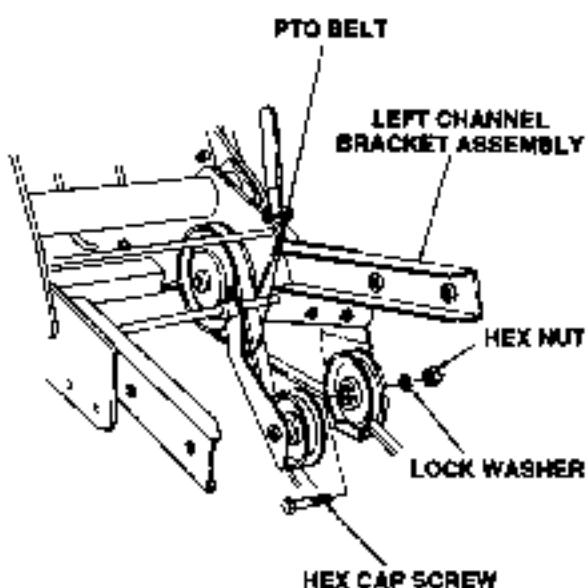
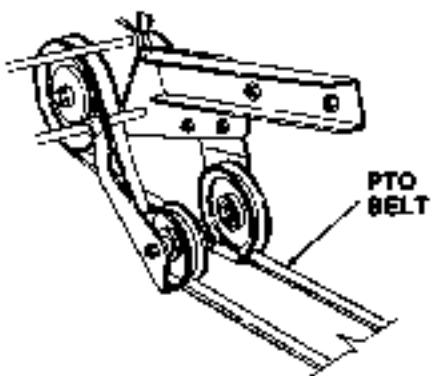

Figure 7-58. Installing V-Idler Pulley.
Figure 7-59. Proper PTO Belt Routing.
- Place the V-side of the PTO belt in the groove of the idler V-pulley (10), then with the extended hub of the pulley toward the bracket, position the idler pulley (with the belt) on the left channel bracket assembly as shown in Figure 7-58
- Ensure that the PTO belt is properly routed over the pulleys as shown in Figure 7-59, then secure the idler pulley (with belt) to the left channel bracket with the hex cap screw (19), lock washer (20) and hex nut (21). See Figure 7-58.
- i. Place the V-side of the PTO belt in the groove of the idler V-pulley (10), then with the extended hub of the pulley toward the bracket, position the idler pulley (with the belt) on the left channel bracket assembly as shown in Figure 7-58.
- j. Ensure that the PTO belt is properly routed over the pulleys as shown in Figure 7-59; then secure the idler pulley (with belt) to the left channel bracket with the hex cap screw (19), lock washer (20) and hex nut (21). See Figure 7-58